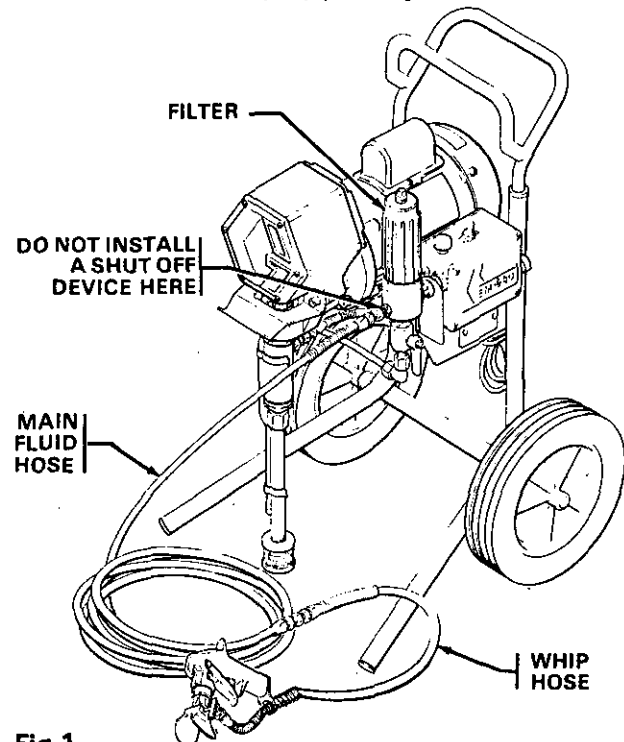

Fig 1
1. **Connect Hose and Gun** (Refer to Fig 1.)
3. Never install any shutoff device between the filter and the main hose. See Fig 1.